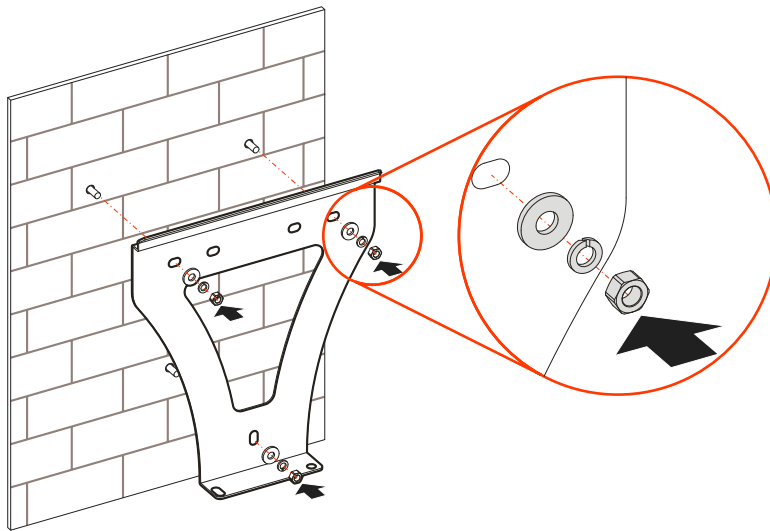

Figure3-10 Fasten the installation holder
- Step 4 Align the holes of installation holder with the expansion bolts and install the flat gasket, spring gasket and nut into the expansion plugs and fasten them by wrench, as shown in Figure3-10.